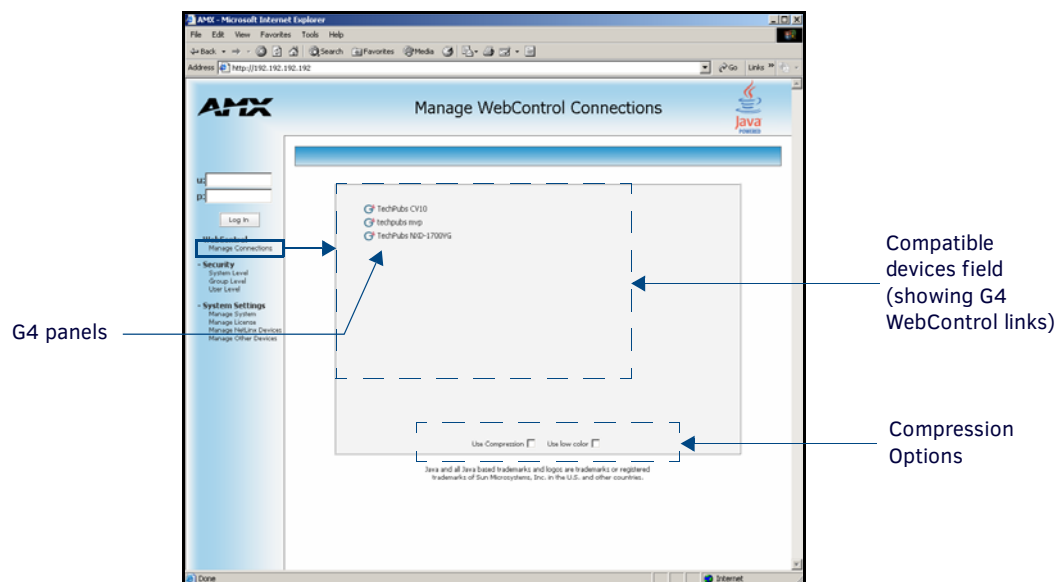

FIG. 87 Manage WebControl Connections page (populated with compatible panels)
5. This Manage WebControl Connections page (FIG. 87) is accessed by clicking on the **Manage connections** link (within the **Web Control** section within the **Navigation frame**). Once activated, this page displays links to G4 panels running the latest G4 Web Control feature (previously setup and activated on the panel).